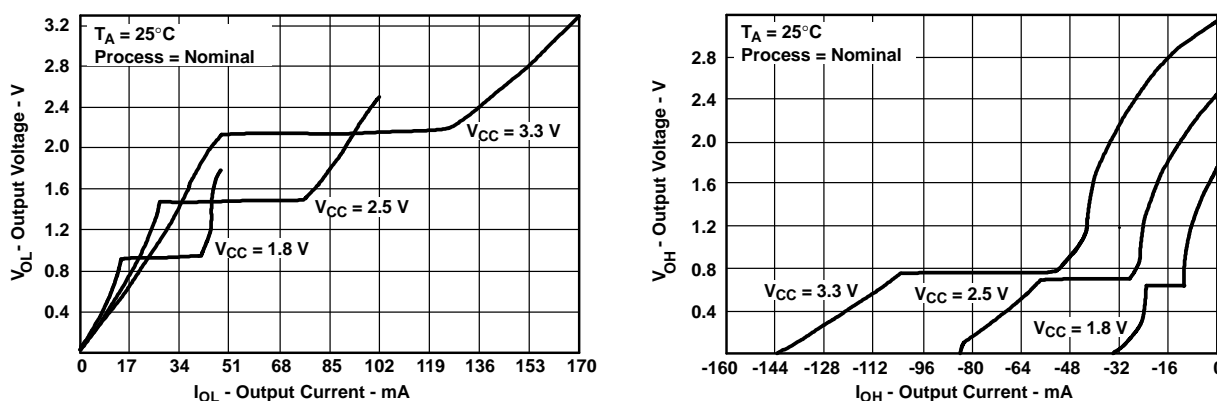

Figure 1. Output Voltage vs Output Current
A Dynamic Output Control (DOC™) circuit is implemented, which, during the transition, initially lowers the output impedance to effectively drive the load and, subsequently, raises the impedance to reduce noise. Figure 1 shows typical  $V_{OL}$  vs  $I_{OL}$  and  $V_{OH}$  vs  $I_{OH}$  curves to illustrate the output impedance and drive capability of the circuit. At the beginning of the signal transition, the DOC circuit provides a maximum dynamic drive that is equivalent to a high-drive standard-output device. For more information, refer to the TI application reports, *AVC Logic Family Technology and Applications*, literature number SCEA006, and *Dynamic Output Control (DOC™) Circuitry Technology and Applications*, literature number SCEA009.
(1) All unused inputs of the device must be held at VCC or GND to ensure proper device operation. Refer to the TI application report, *Implications of Slow or Floating CMOS Inputs*, literature number SCBA004.
(2) Dynamic drive capability is equivalent to standard outputs with IOH and IOL of ±24 mA at 3.3-V VCC. See Figure 1 for VOL vs IOL and VOH vs IOH characteristics. Refer to the TI application reports, *AVC Logic Family Technology and Applications*, literature number SCEA006, and *Dynamic Output Control (DOC™) Circuitry Technology and Applications*, literature number SCEA009.